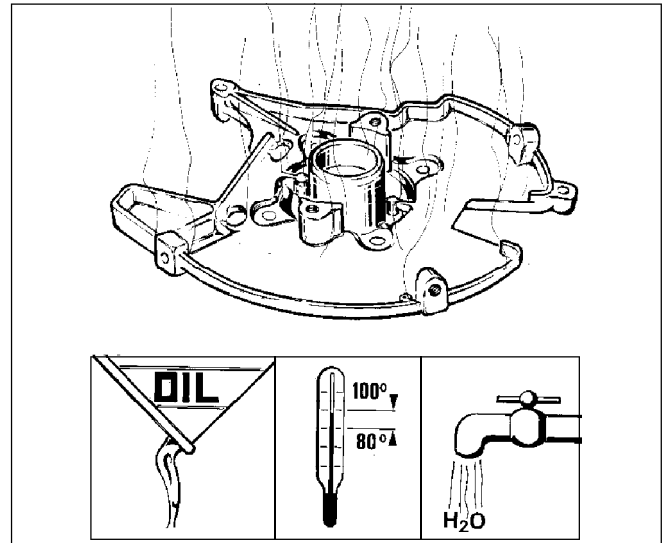

Fig. 20
- In order to remove or replace the bearing, the shroud base must be pre-heated to 80/100 deg C. (Fig. 20)
- Heat the shroud base by immersing in oil or water at a temperature of about 80/100 deg C (Fig 20).